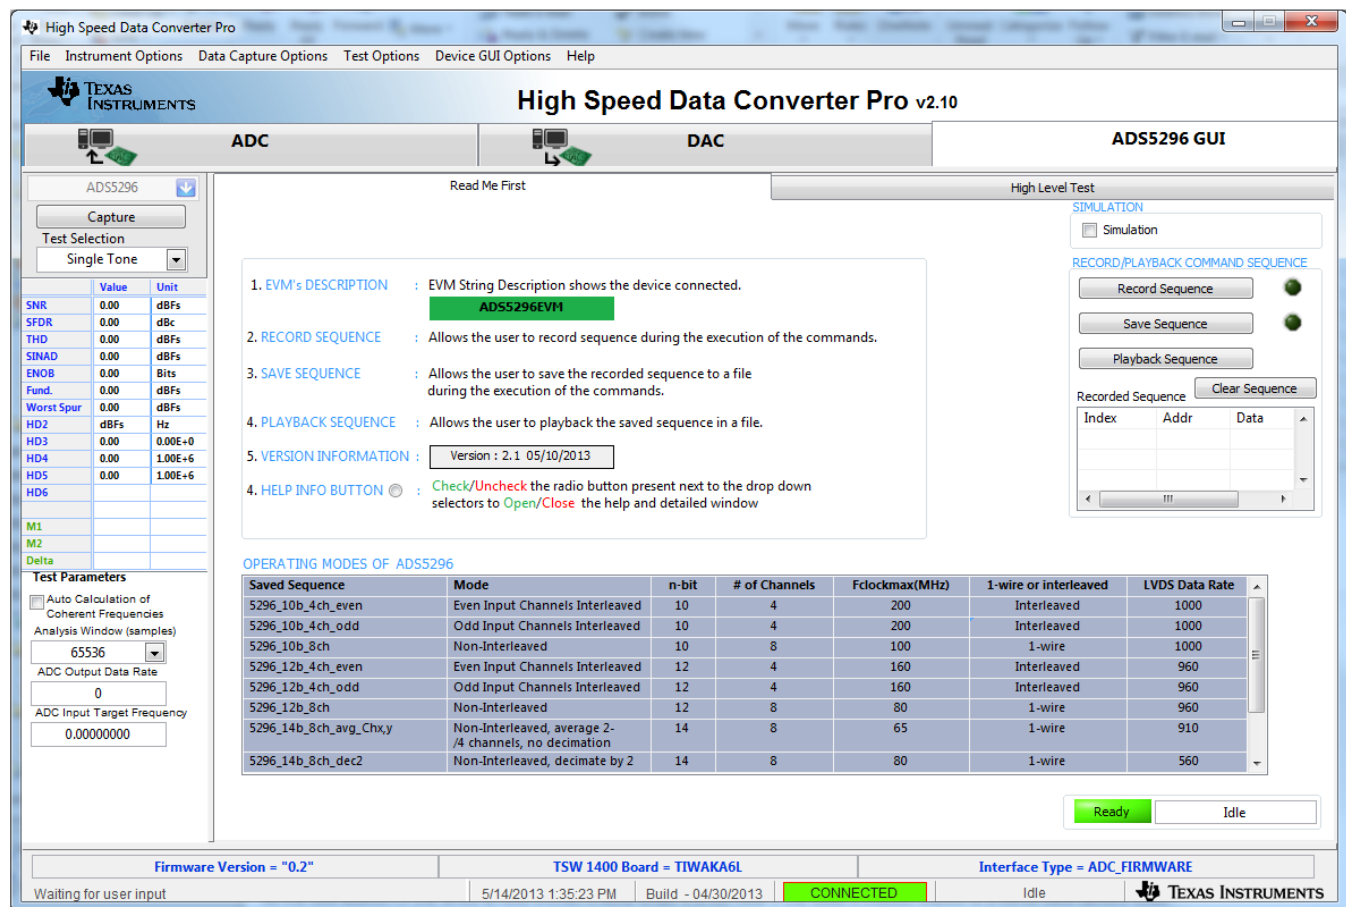

Figure 29. ADS5296 Plug-in GUI Setup (b)
- Click on the tab *ADS5296 GUI* to view the software GUI for the ADS5296. The GUI consists of two tabs: *Read Me First* and *High Level Test* as shown in Figure 29.